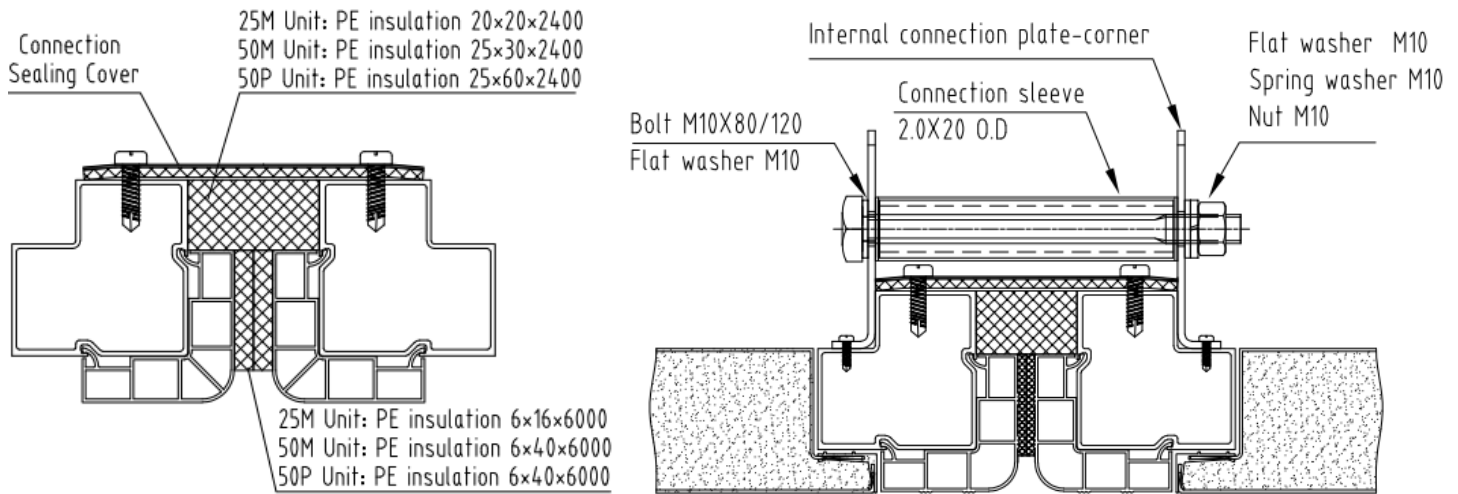
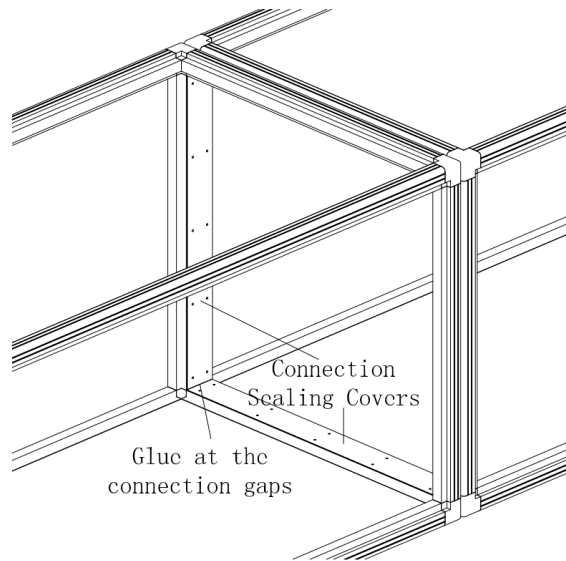

Figure 3.4 Splits Thermal Insulation & Connection Instruction
Figure 3.7 Internal Connection Sealing Cover Installation
Notice: The insulation tapes shall be flush with the end of side profile when pasted onto the connection surface. See Figure 3.4.
- 8) For the splits that can be connected with internal connection plates and fasteners, internal connection plates have been installed at four corners of each connection section before delivery, so users just adopt the connection fasteners (M10 series) and sleeves to lock the connection plates, as shown in Figure 3.4; after the connection plates are locked, next step is to fix the connection sealing covers onto side profiles with ST5.5 self tapping screws, finally sealant shall be glued at the joint of four sealing covers to prevent air leakage, as shown in Figure 3.7.
- 9) For the splits that can't be connected with internal connection plates and fasteners, internal connection plates haven't been installed at four corners of each connection section before delivery, so after finishing operations in above point 7, users just fix the connection sealing covers onto side profiles with ST5.5 self tapping screws, finally sealant shall be glued at the joint of four sealing covers to prevent air leakage, as shown in Figure 3.7.